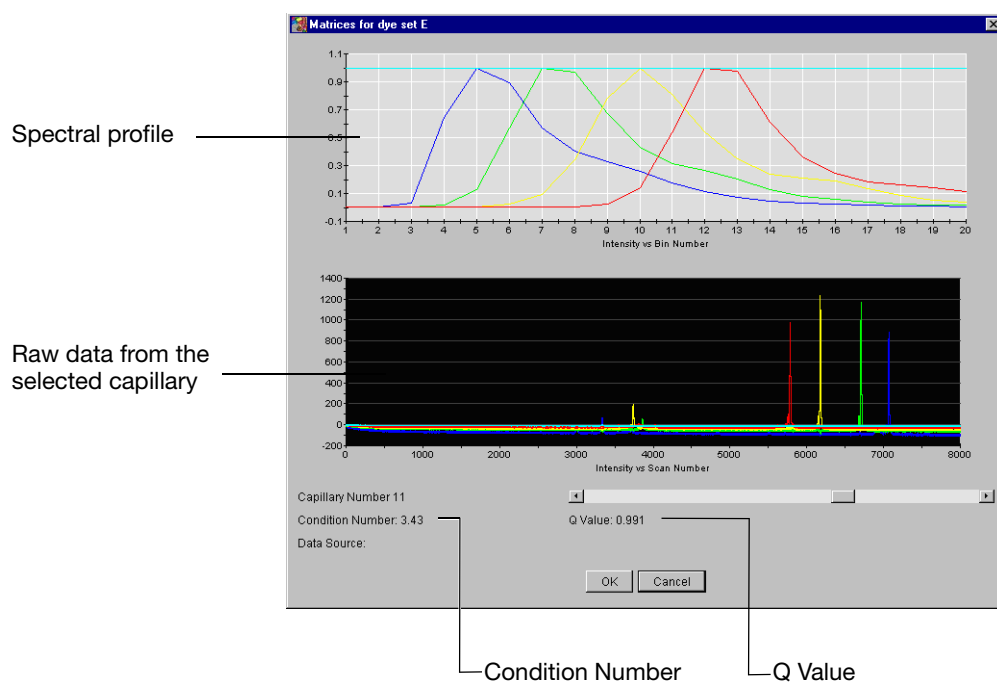
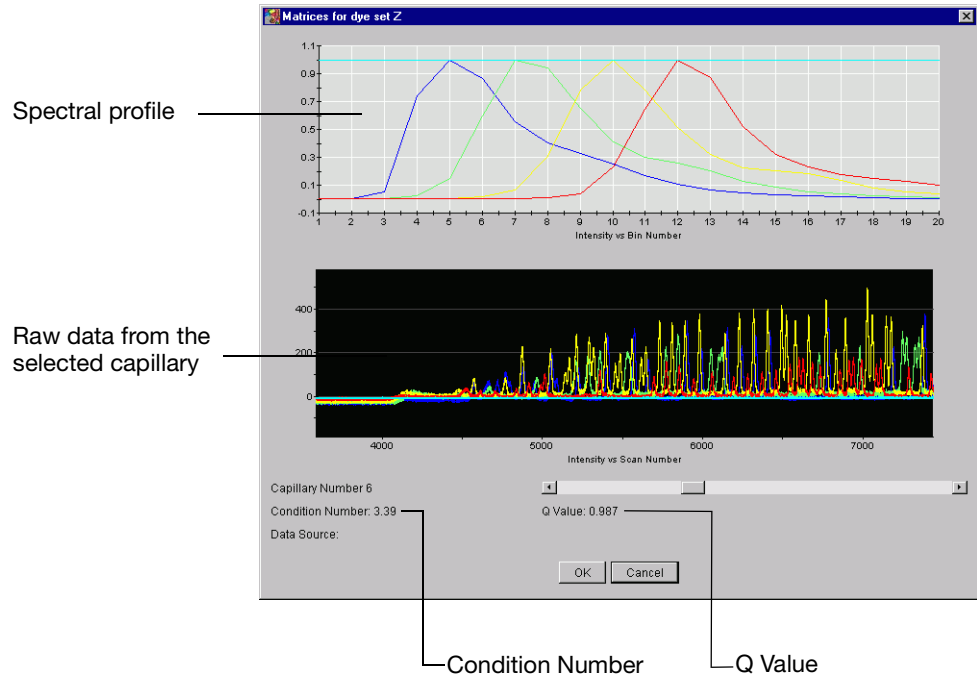

Figure 31 Example output from a spectral calibration using matrix standards
Figure 32 Example output from a spectral calibration using sequence standards
- **Raw data** – The emission image exhibits four distinct fluorescence emission maxima, one for each dye, if matrix standards are used (Figure 31). If sequencing standards are used, there are multiple peaks (Figure 32).